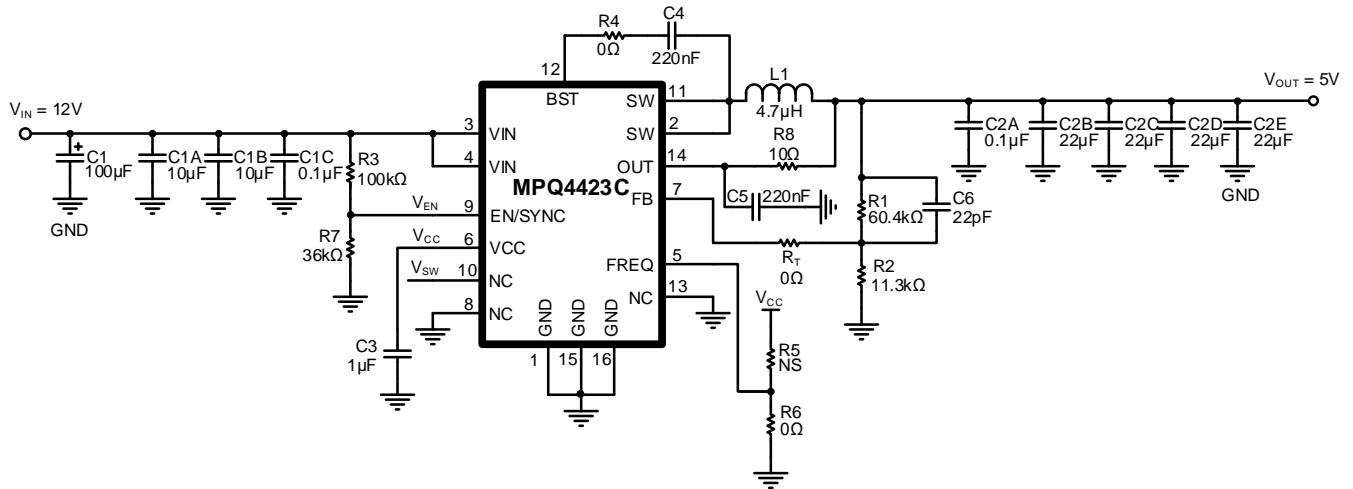

Figure 9: Typical Application Circuit ($V_{IN} = 12V$, $V_{OUT} = 5V$, $I_{OUT} = 6A$, $f_{sw} = 420kHz$ with FSS)
- 11) The recommended PCB layout is based on the typical application circuit with a 5V V_{OUT} , 6A I_{OUT} , and 420kHz f_{SW} with FSS (see Figure 9 on page 19).